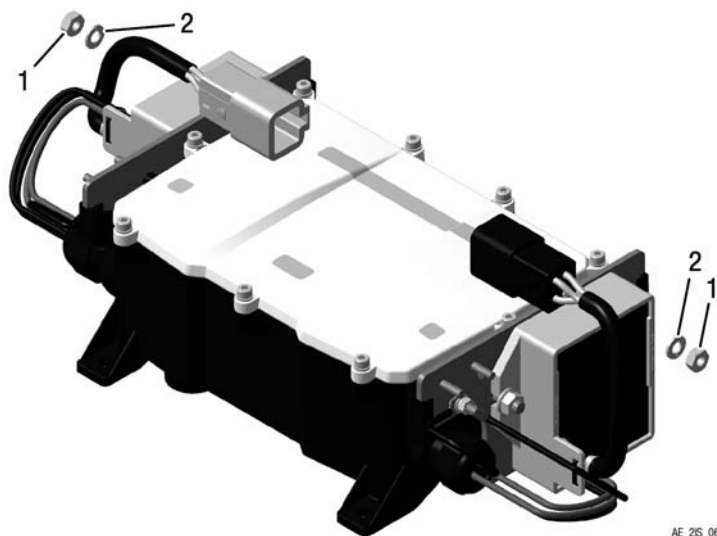
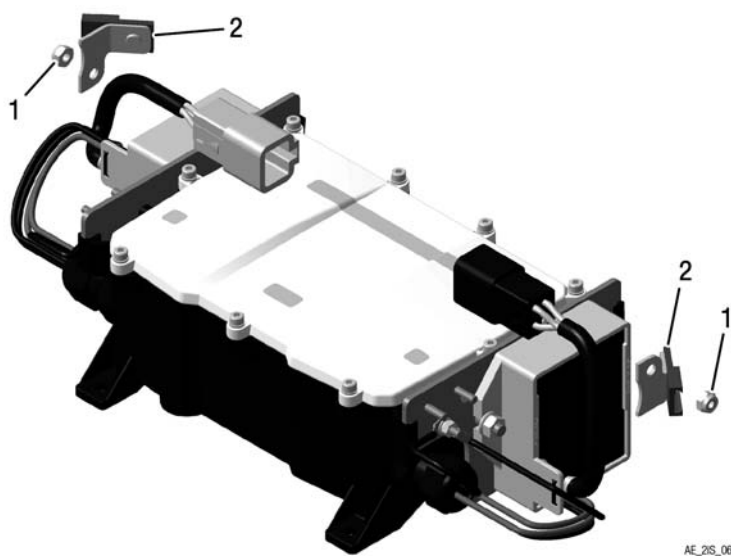

Fig. 1
Fig. 2
See Fig. 2 and see also latest Illustrated Parts Catalog of 912 i Series, chapter 76-10-00.
See Fig.1 and Fig. 2.
3	Install the new regulator connector bracket (Fig. 2, pos. 2) and position correct.